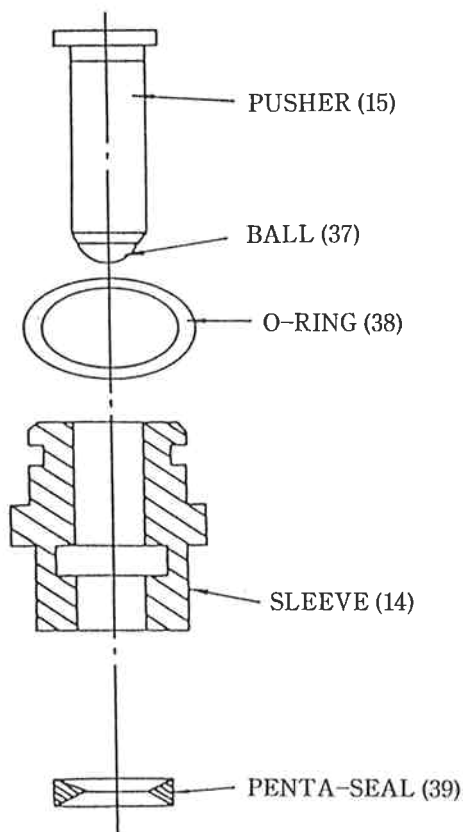

Fig. 3-1 Sleeve Assembly
- 5.1 Referring to Fig. 3-1, be carefull for the direction of the lip, and insert penta-seal (39) into sleeve (14).